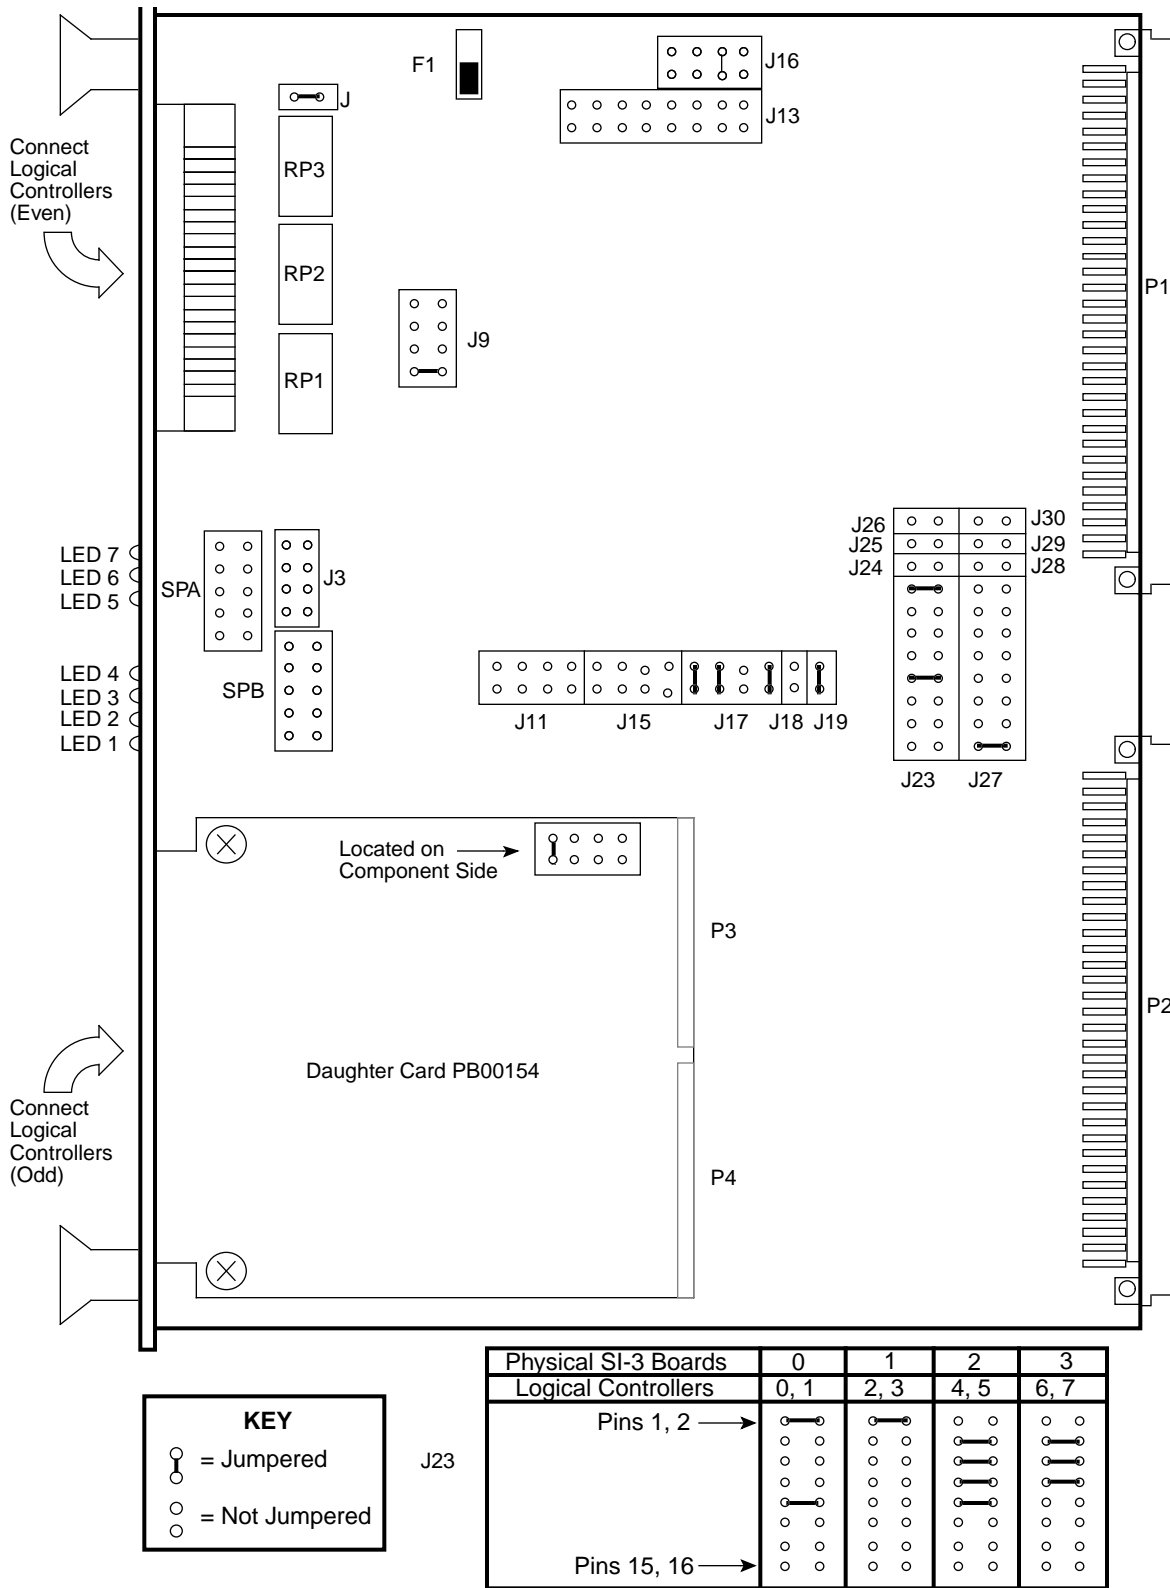

Figure 1. SI-3 Jumper Configurations
4. Change any jumpers or switches necessary on the new SI-3 controller board. Refer to Figure 1.